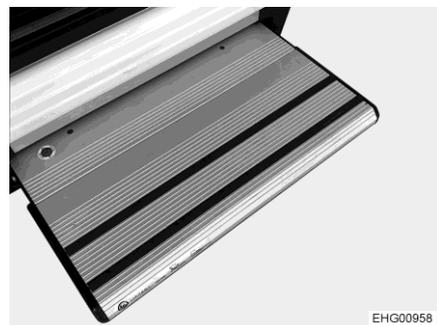
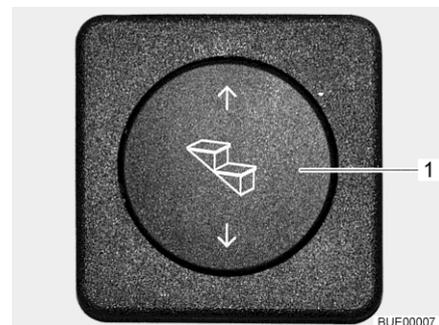

Fig. 4 Entrance step
Fig. 5 Operating switch entrance step
Before stepping on the entrance step (Fig. 4), fully extend it.
- Extending:** ■ Press the rocker switch (Fig. 5,1) down until the entrance step (Fig. 4) has extended completely.
- Retracting:** ■ Press the rocker switch (Fig. 5,1) up until the entrance step (Fig. 4) has retracted completely.